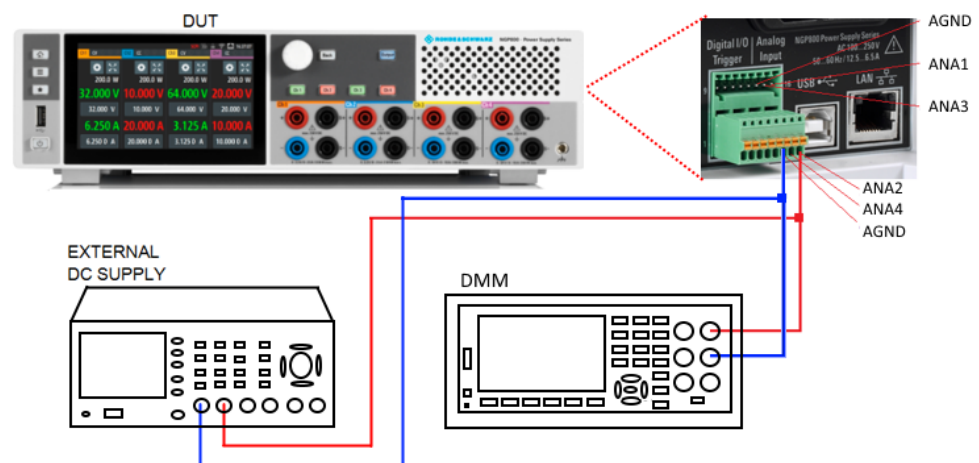

Figure 6-40: Analog input adjustment setup
4. Setup the adjustment with instruments illustrated in Figure 6-40.